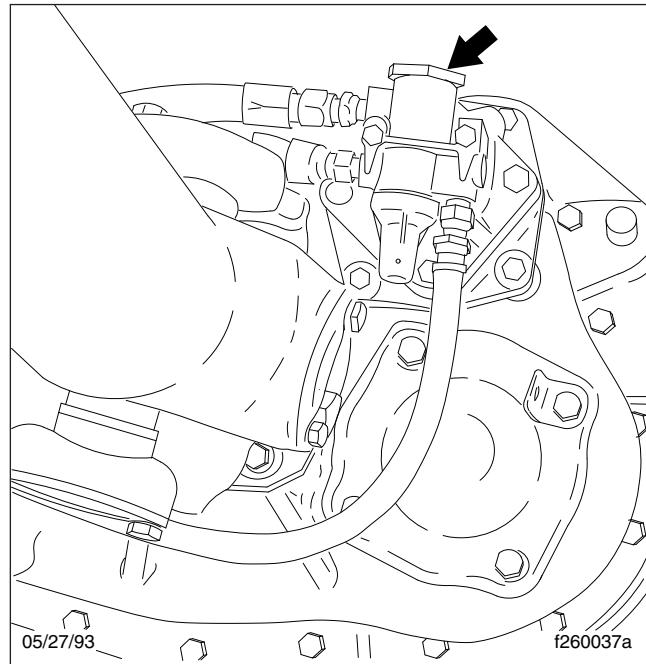

Fig. 3, Air Filter/Regulator Location (Eaton Fuller transmission shown)
2. Clean the outside of the air filter/regulator with cleaning solvent. See Fig. 3.